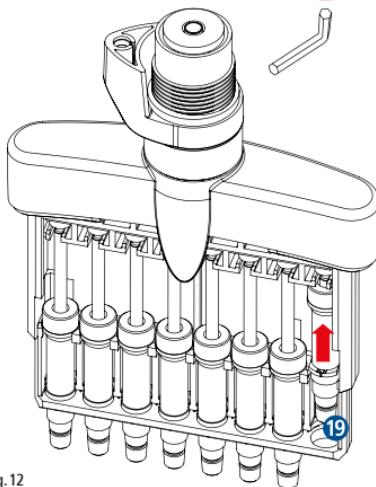
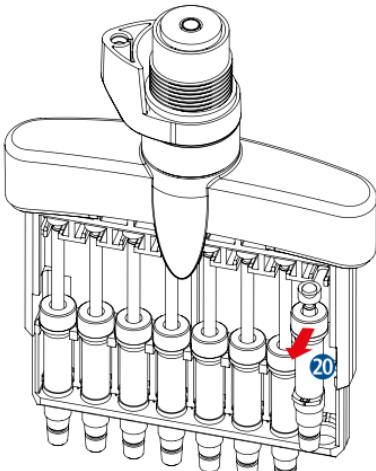

Fig.12
Fig.13
- The piston cylinder **19** is pushed up (Fig. 12) and the entire piston unit **20** can now easily be removed from the front (Fig. 13) and cleaned externally using an alcoholic disinfectant. Re-lubricate the piston with original STARLAB piston grease (see section 8 Ordering Information).